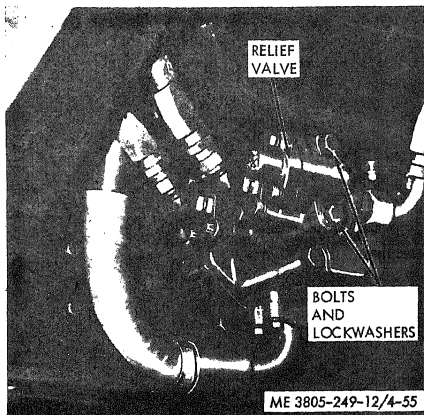

Figure 4-55. Relief valve.
a. Removal. Refer to figure 4-55.
(1) Drain the hydraulic reservoir.
(2) Disconnect the hydraulic lines at the relief valve. Cap or plug openings.